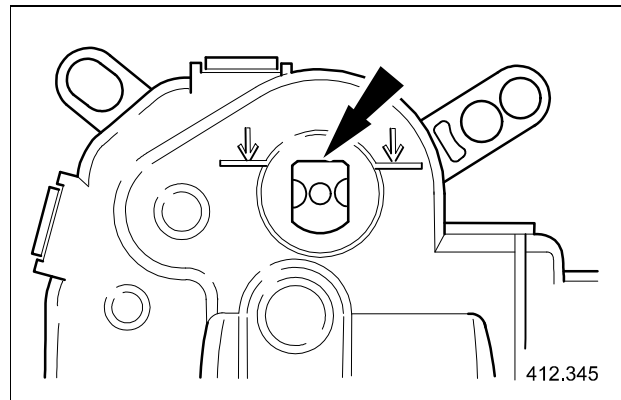

Fig. 7
- 16 Connect the air inlet blend door actuator to electrical connector, and switch the ignition ' ON' . With a combination of operating the air recirculation button ' ON/OFF' and disconnecting the electrical connector at the correct time set the shaft to the correct position. The flat opposite the curved face should be set nearest to and parallel with the line on the actuator body (see Fig. 7).